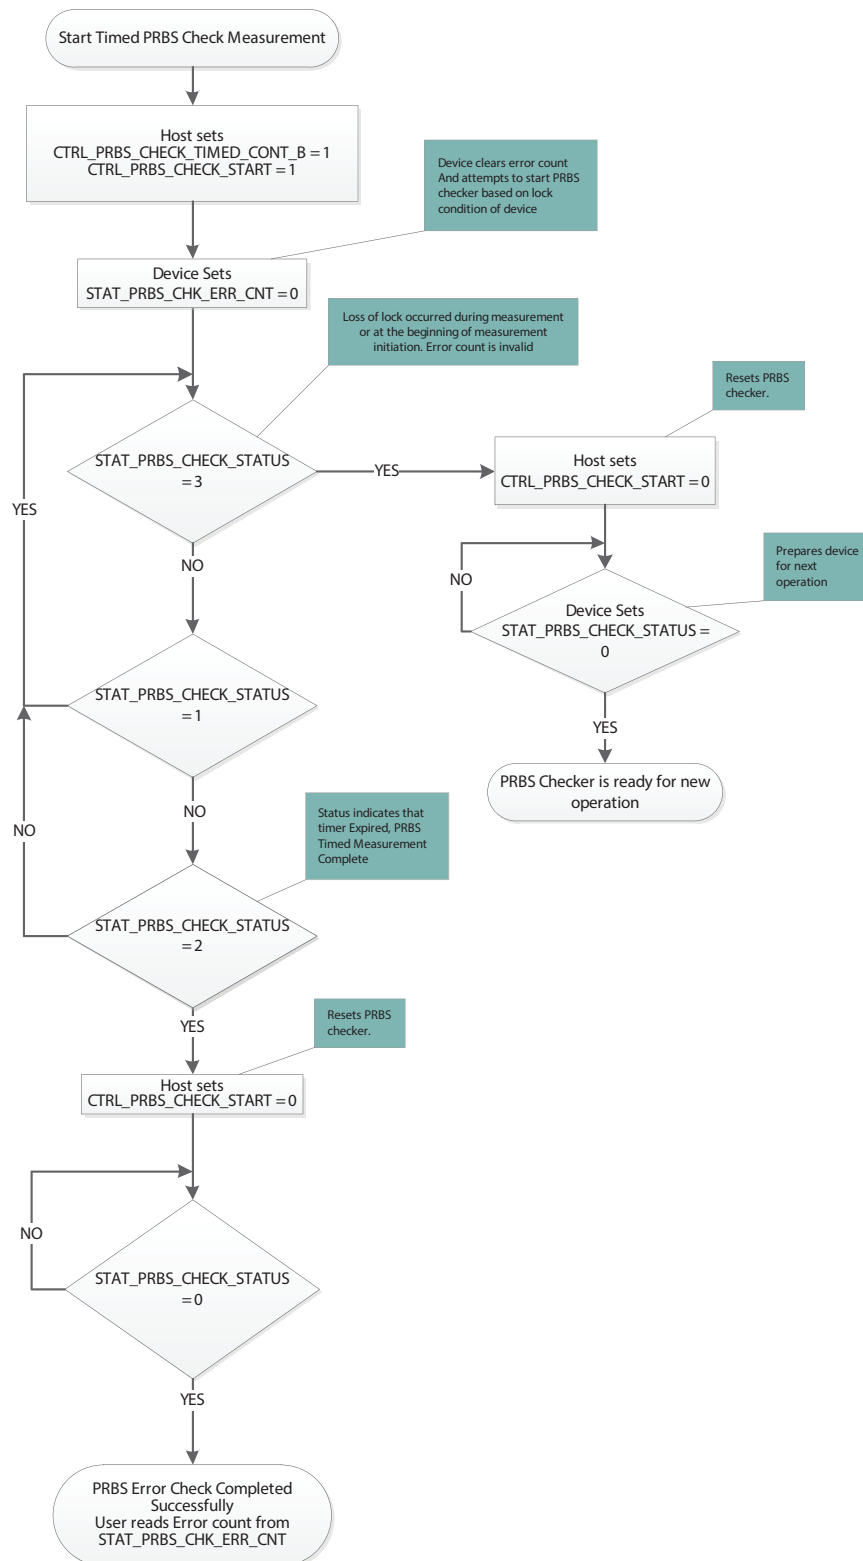

Figure 4-2: Timed PRBS Check Flow
- 2) Follow the steps outlined in Figure 4-2: Timed PRBS Check Flow.